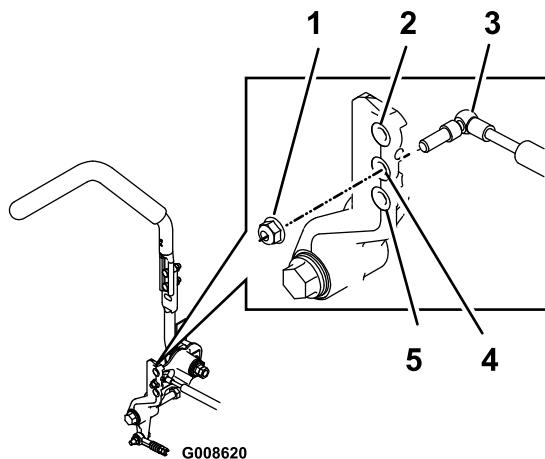

Figure 63
1. Bolt (4)
3. Remove the locknut, move the damper-mounting bolt to the desired position, and install the locknut. Refer to Figure 63 for the mounting options.